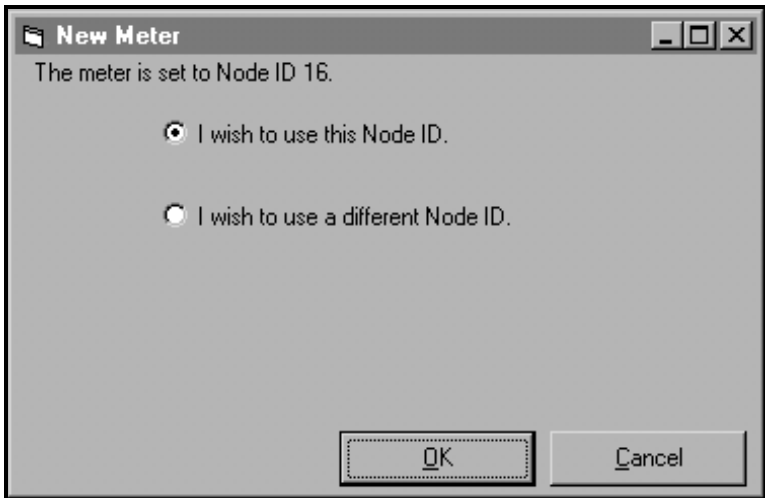

Figure 38: Node ID Confirmation
- After responding to the previous dialog box, a dialog box showing the Node ID (16 in this example) of the meter appears (see Figure 38). Select the “*I wish to use this Node ID*” radio button and then click on the [OK] option button.